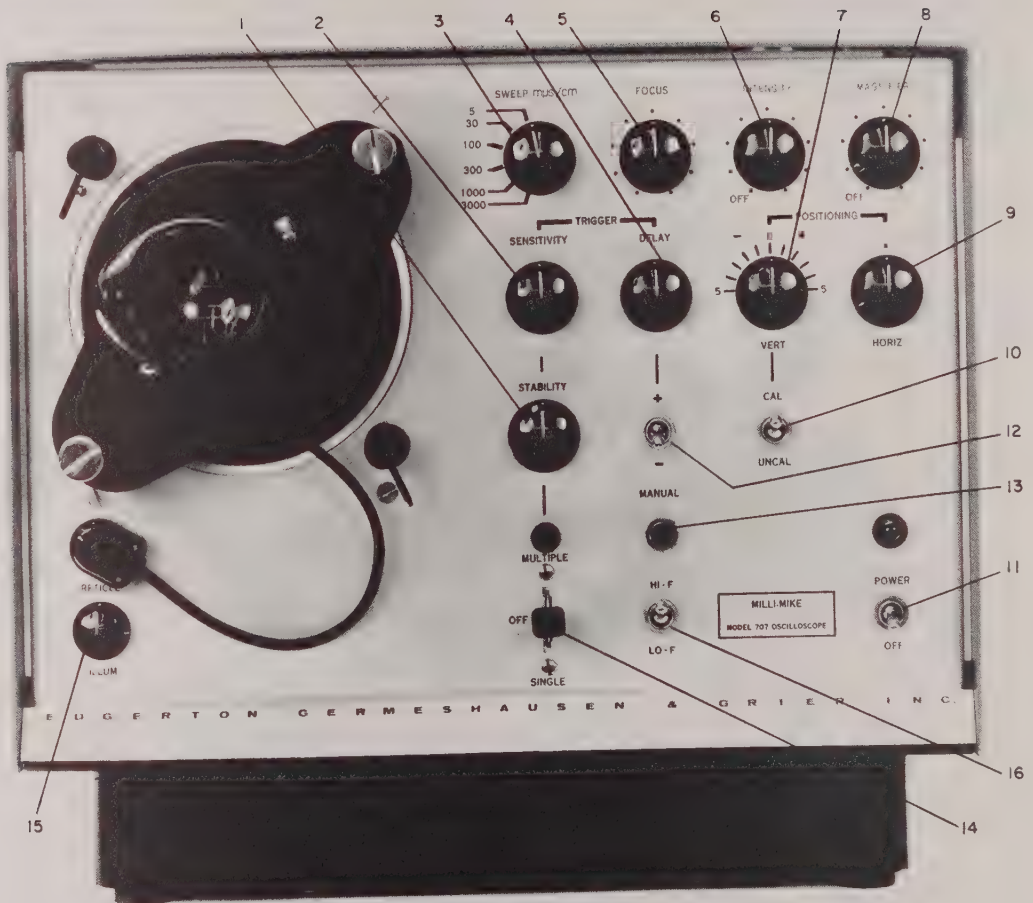

Fig. 9. Front panel controls.
Operating controls and the functions they perform are described in this section (refer to Fig. 9).
- a. Turn the STABILITY control (1, Fig. 9) completely clockwise.
- b. Move the lever switch (14) to the MULTIPLE position.
- c. Select a medium sweep speed (e.g., 300 mμsec/cm) with the sweep speed selector (3).
- d. Turn the MAGNIFIER control (8) to the OFF position.
- e. Turn the VERT (7) and HORIZ POSITIONING (9) controls to their middle positions (pointers straight up).
- f. Increase the intensity (6) and focus baseline (5). Do not use excessive intensity. .